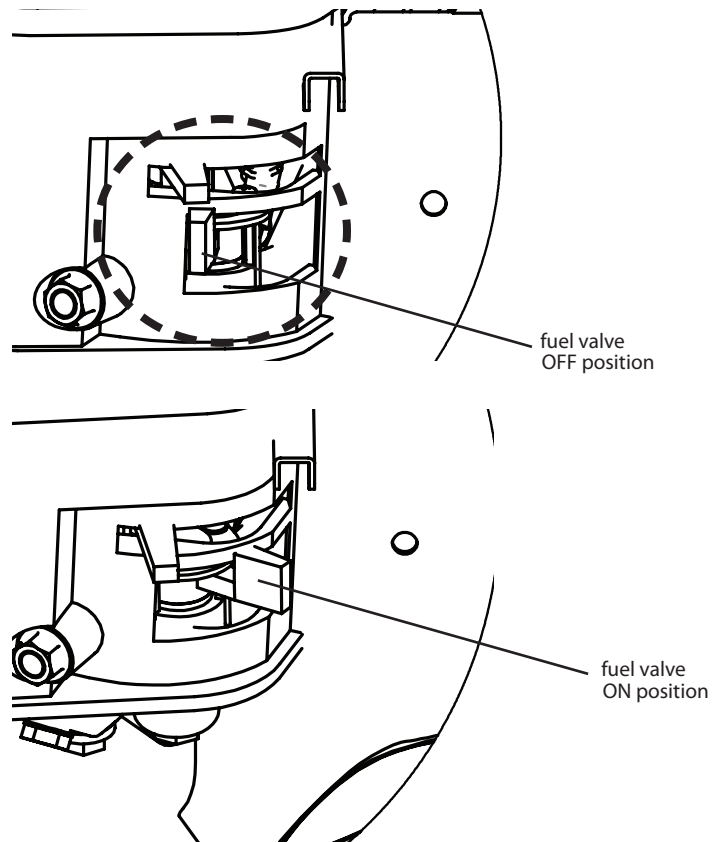

Figure 13
1. Shut fuel off by closing fuel shutoff valve. Failure to turn fuel off may cause raw fuel to enter the crank case contaminating the engine oil and providing insufficient lubrication. **SEVERE ENGINE DAMAGE MAY RESULT. SEE FIGURE 13.**